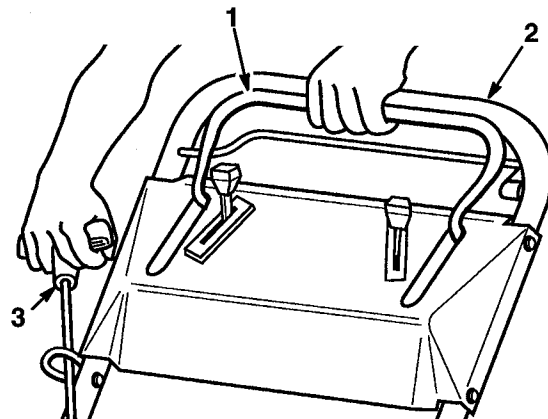

Figure 35
8. Holding blade control bail against handle pull starter rope several times to blow out loose carbon (Fig. 35).